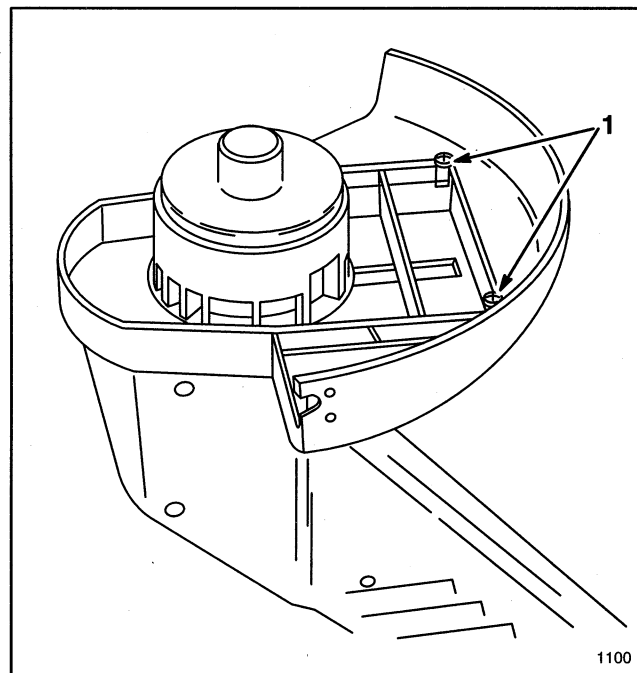

Figure 8
2. Invert trimmer and secure grass shield to underside of motor housing with (2) two self-tapping screws (Fig. 8).